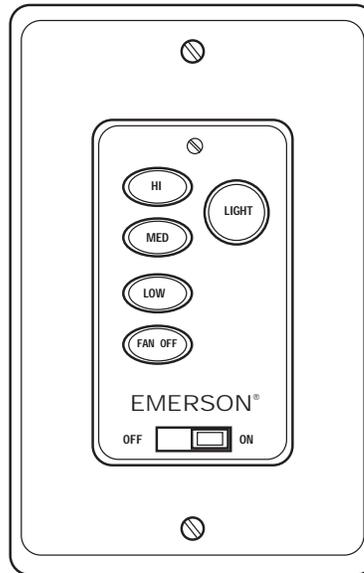

Figure 26
Your Fan/Light Wall Control (Figure 26) has full control of your fan and light. However, airflow direction is controlled by a slide switch on the switch housing.
- 2. To set the desired fan speed, press the HI, MED, or LOW buttons to operate your fan on high, medium, or low speed (Figure 26).